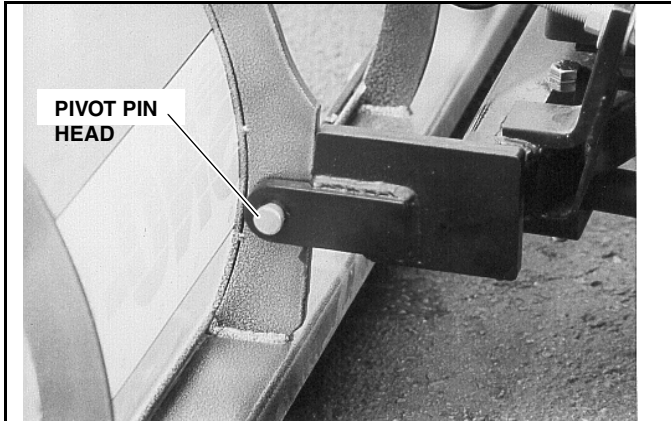

Figure 1-2
3. Align inside snow plow blade ribs with power pack swing frame end lugs. Align holes in both blade rib and end lug and insert pivot pins. (See Figure 1-2)